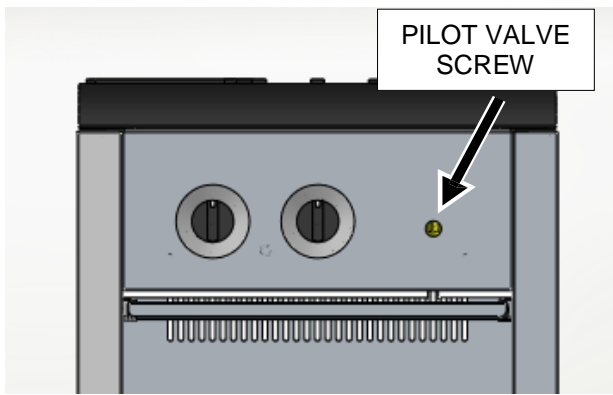
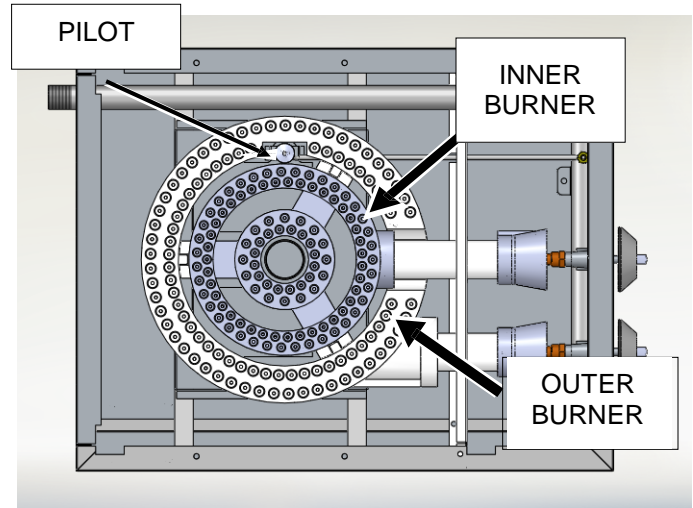

Fig. 5
Fig. 6
The burner is in two sections, controlled by two heavy duty infinite control valves. The center "Star" section (Fig. 6) is on separate burner with an input of 40,000 BTU/hr. It is controlled by the right burner valve knob. The outer circle of the burner (Fig. 6) is the other separate 40,000 BTU/hr input burner, controlled by the left burner valve knob.
3. Light standing pilot with a lit taper (see Fig 6). Adjust pilot to ¼" high flame, if necessary, by turning pilot valve adjusting screw (see Fig. 5) counterclockwise to increase or clockwise to decrease flame.